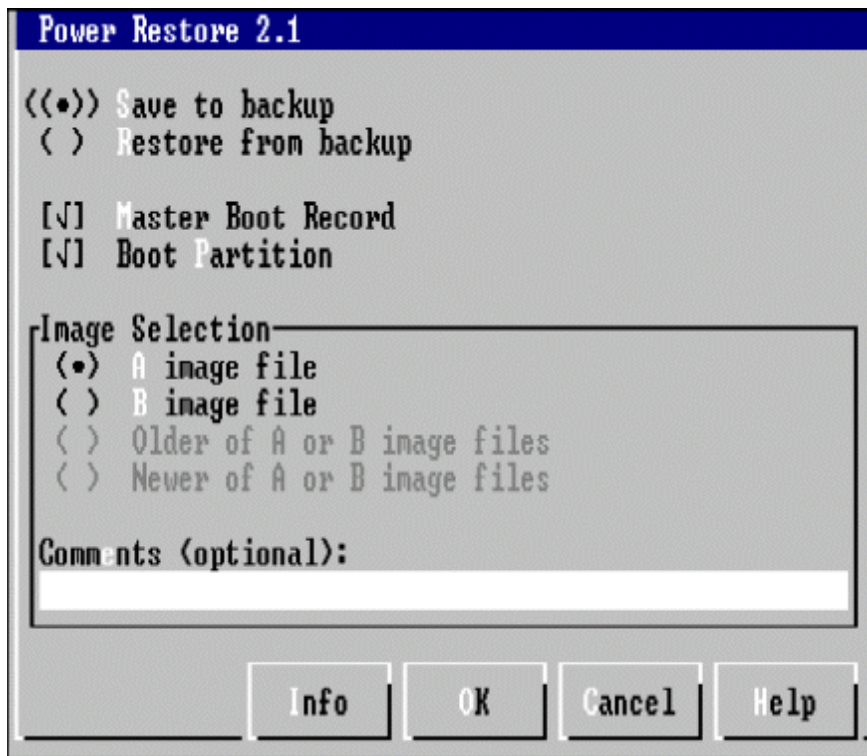

Figure 94. Power Restore text-based user interface
- Text-mode variation of the GUI interface - Use this interface if the system does not meet the previous GUI based requirements. The interface looks like Figure 94: